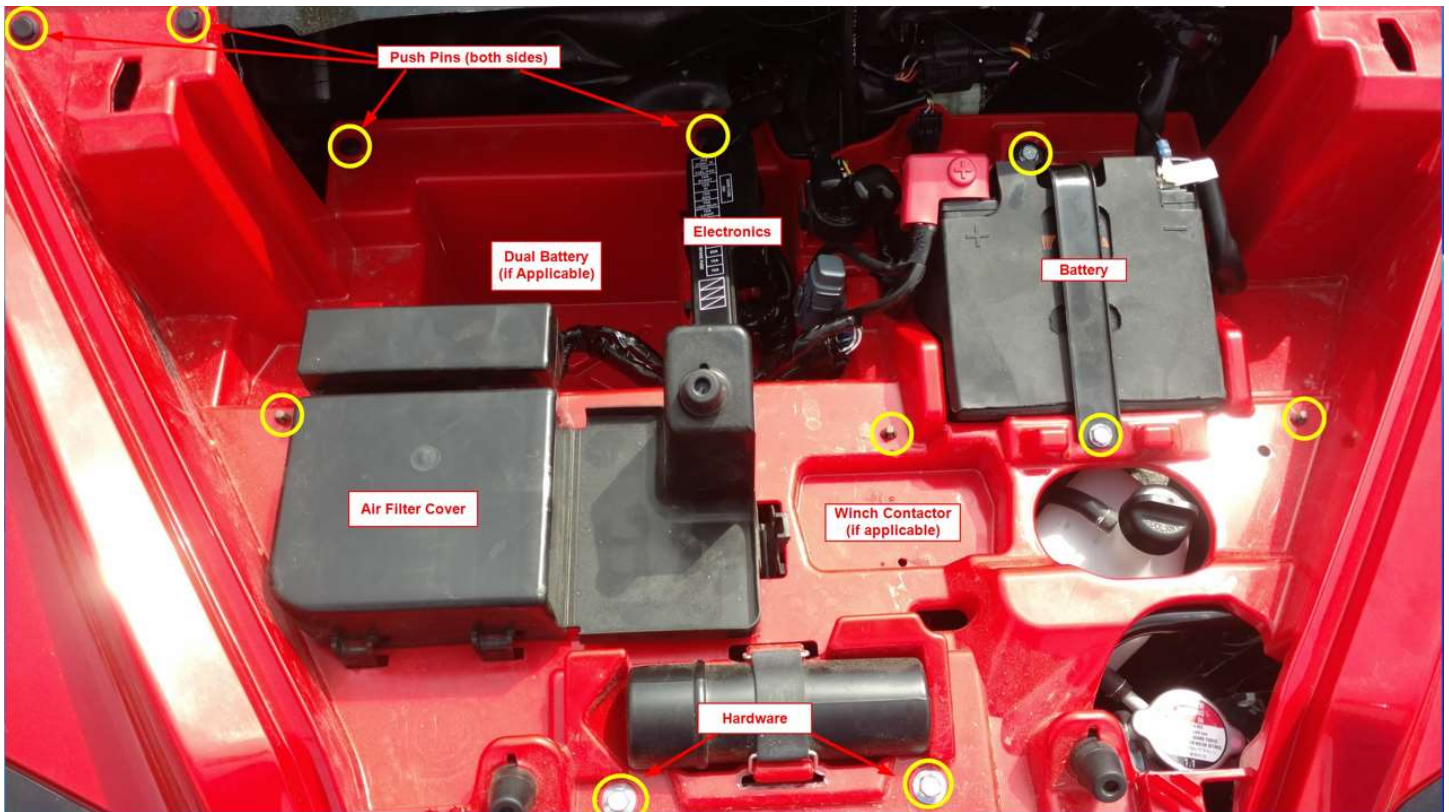

Figure 1
- b. Remove the Plastic Hood exposing the electronics bay as shown in Figure 1.
- c. Remove battery, air filter cover (**place a paper towel inside the air intake to keep foreign objects from entering**), remove push pins, electronics, winch contactor (if applicable) and hardware that hold the front plastic to the frame as shown in Figure 1.